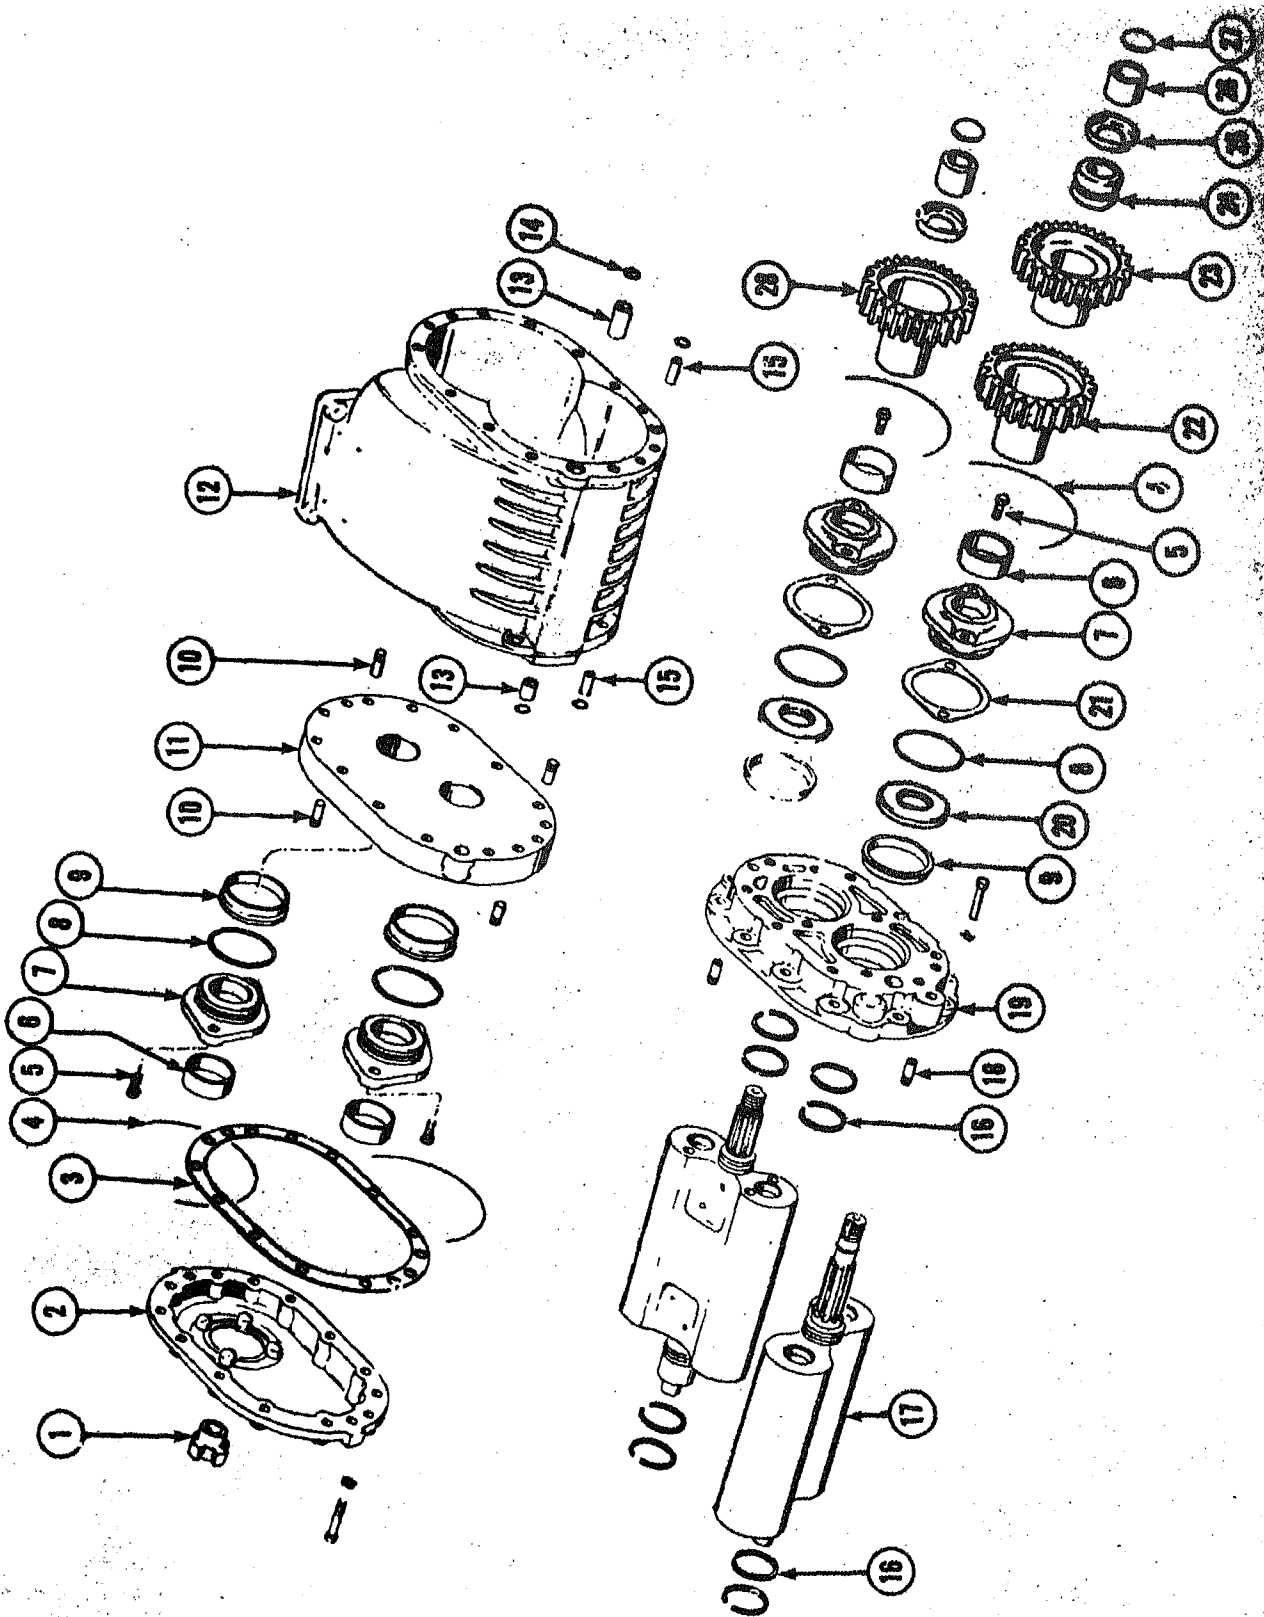
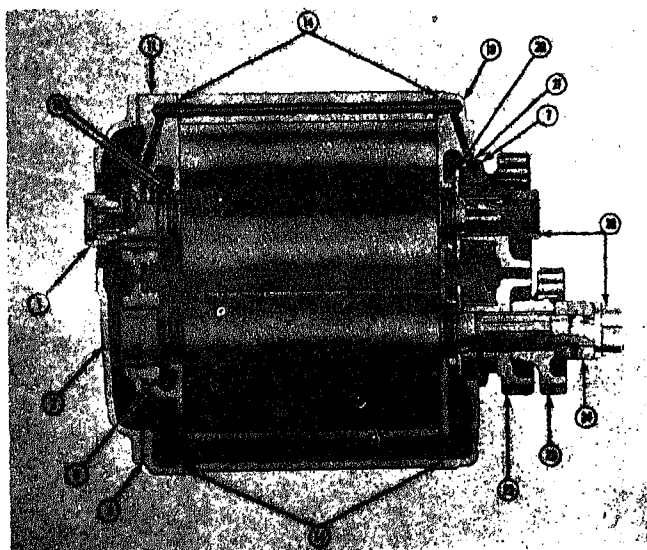
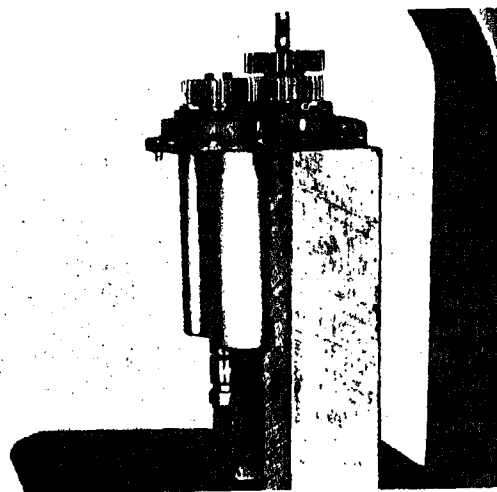
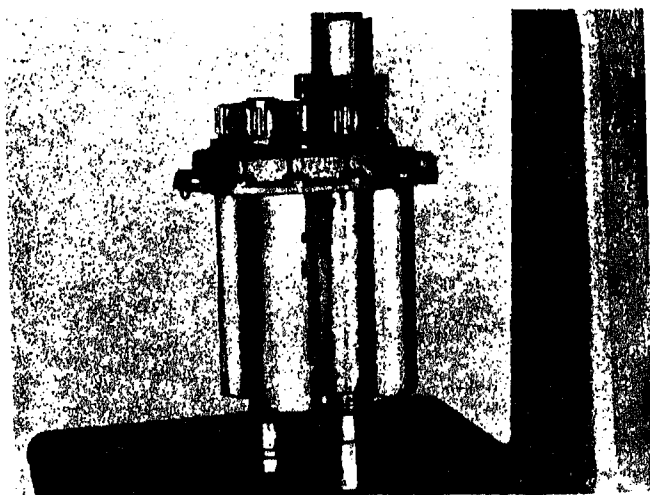

Fig. 10-4-4. Supercharger — exploded view
Fig. 10-4-5. Supercharger — cross section
Fig. 10-4-7. Pressing gears of rotors
Fig. 10-4-10. Pressing gears on rotors
See Fig. 10-4-4 and/or Fig. 10-4-5 for reference numbers.
3. Remove shaft nut (26, Fig. 10-4-4) (Fig. 10-4-5) and lock washers (25) from rotor shafts and slide outboard journal (24) from drive rotor shaft (17). Remove expansion plug (damaged).
4. Pull water pump coupling half (1) from driven rotor shaft with a gear puller.
5. Remove capscrews and lockwashers securing end cover (2) and gasket (3). Discard gasket. Tap cover with a rubber mallet to loosen from housing dowels (10).
6. Remove capscrews and lockwires securing bearing cage (7) to end plate (11). Remove bearing cages by rotating and prying.
7. Remove bearing cage seal rings (8) and press bearings from bearing cages. Mark bearing cages to assure replacement in identical position from which removed.
8. If damaged, pry oil collector rings (9) from end plate and remove dowels from end plate.
9. Remove capscrews from front end plate (19) and remove end plate and rotor assembly from housing (12).
10. Remove oil pressure ferrules (15) and "O" rings (14).
11. Press drive gear (23) and timing gears (22 and 28) from rotors and end plate assembly and extract rotors from plate assembly. See Fig. 10-4-7 for pressing gears off rotors.
1. Use new shaft nut lockwashers (25, Fig. 10-4-4), expansion plugs (27), seal rings (8), oil collector rings (9) and gaskets (3) in assembly.
2. Install new shaft seal rings (16) on rotors.
3. Install new bearing cage seal rings (8) on bearing cages (7).
4. Press bearings (6) into bearing cages and oil collector rings (9) into end plates. Press in new end plate dowels (10), if removed.
5. Install oil pressure ferrules (15), drain ferrules and ferrule seal rings (14) in housing (12).
6. Position thrust washers (20), shims (21) and bearing cages (7) into gear end plate (19); secure with capscrews and lockwires (4).
7. Press water pump coupling (1) on driven rotor shaft extension so that shaft end is flush with water pump coupling counterbore.
**Note:** Do not damage seal rings while pressing into gear end plate (19).
9. Position timing gear (22) on drive rotor shaft and press into position.
10. Insert driven rotor shaft through the second hole in gear end plate (19) and press on timing gear (28) making sure rotors are positioned exactly 90° apart as timing gears mesh. Fig. 10-4-10.
11. Press drive gear (23, Fig. 10-4-4) on drive rotor shaft snugly against timing gear and install outboard bearing journal (24) on drive rotor shaft.
12. Install shaft nut lockwashers (25) and shaft nuts (26) on
15. Install oil pressure ferrules (15, Fig. 10-4-4) and "O" rings (14). Lubricate with light oil. Position housing (12) over rotors against end plate (19) and secure with lockwires and capscrews.